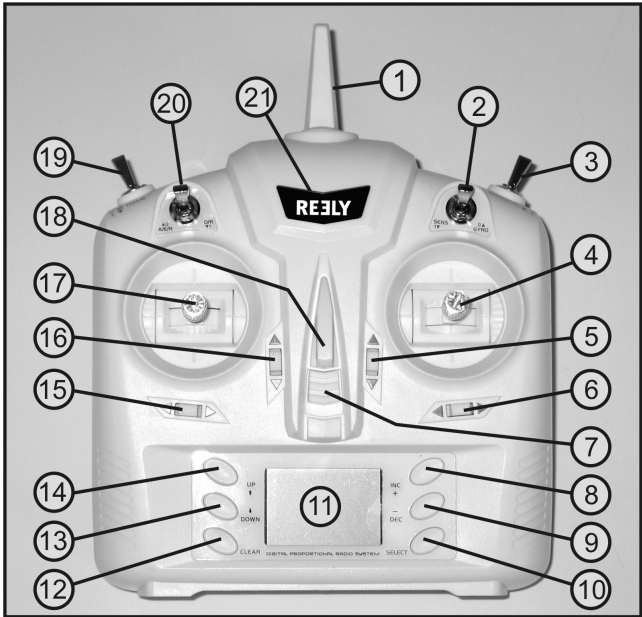

Figure 1: View from the front
Move the control stick for the pitch and tail functions (also see figure 1, item 17) to the bottom position right at your body.
Slide the on/off switch (also see figure 1, item 7) from the lower switch position (off) up to the position (on).
In the backlit display (also see figure 1, item 11), first „H-6“ is the display briefly.
Then a short signal sounds, the LED (also see figure 1, item 21) lights up and the display shows the operating display.